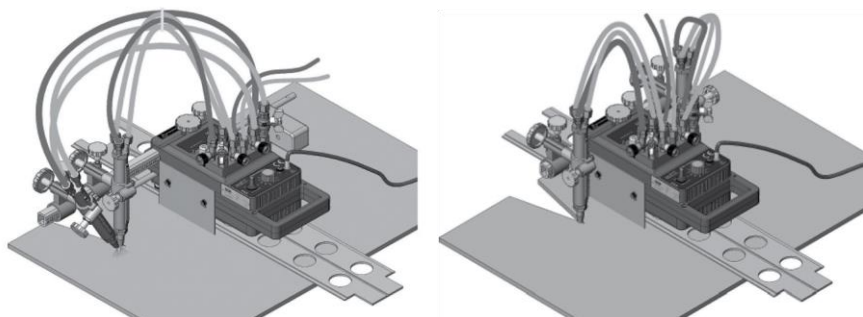

Fig.12: Bevel cutting and strip cutting with two torches
8. use proper cutting nozzles according to point 2.5 above. gcE proFit® machine with two torches can be used for bevel cutting and for strip cutting as shown at the Figure 12.